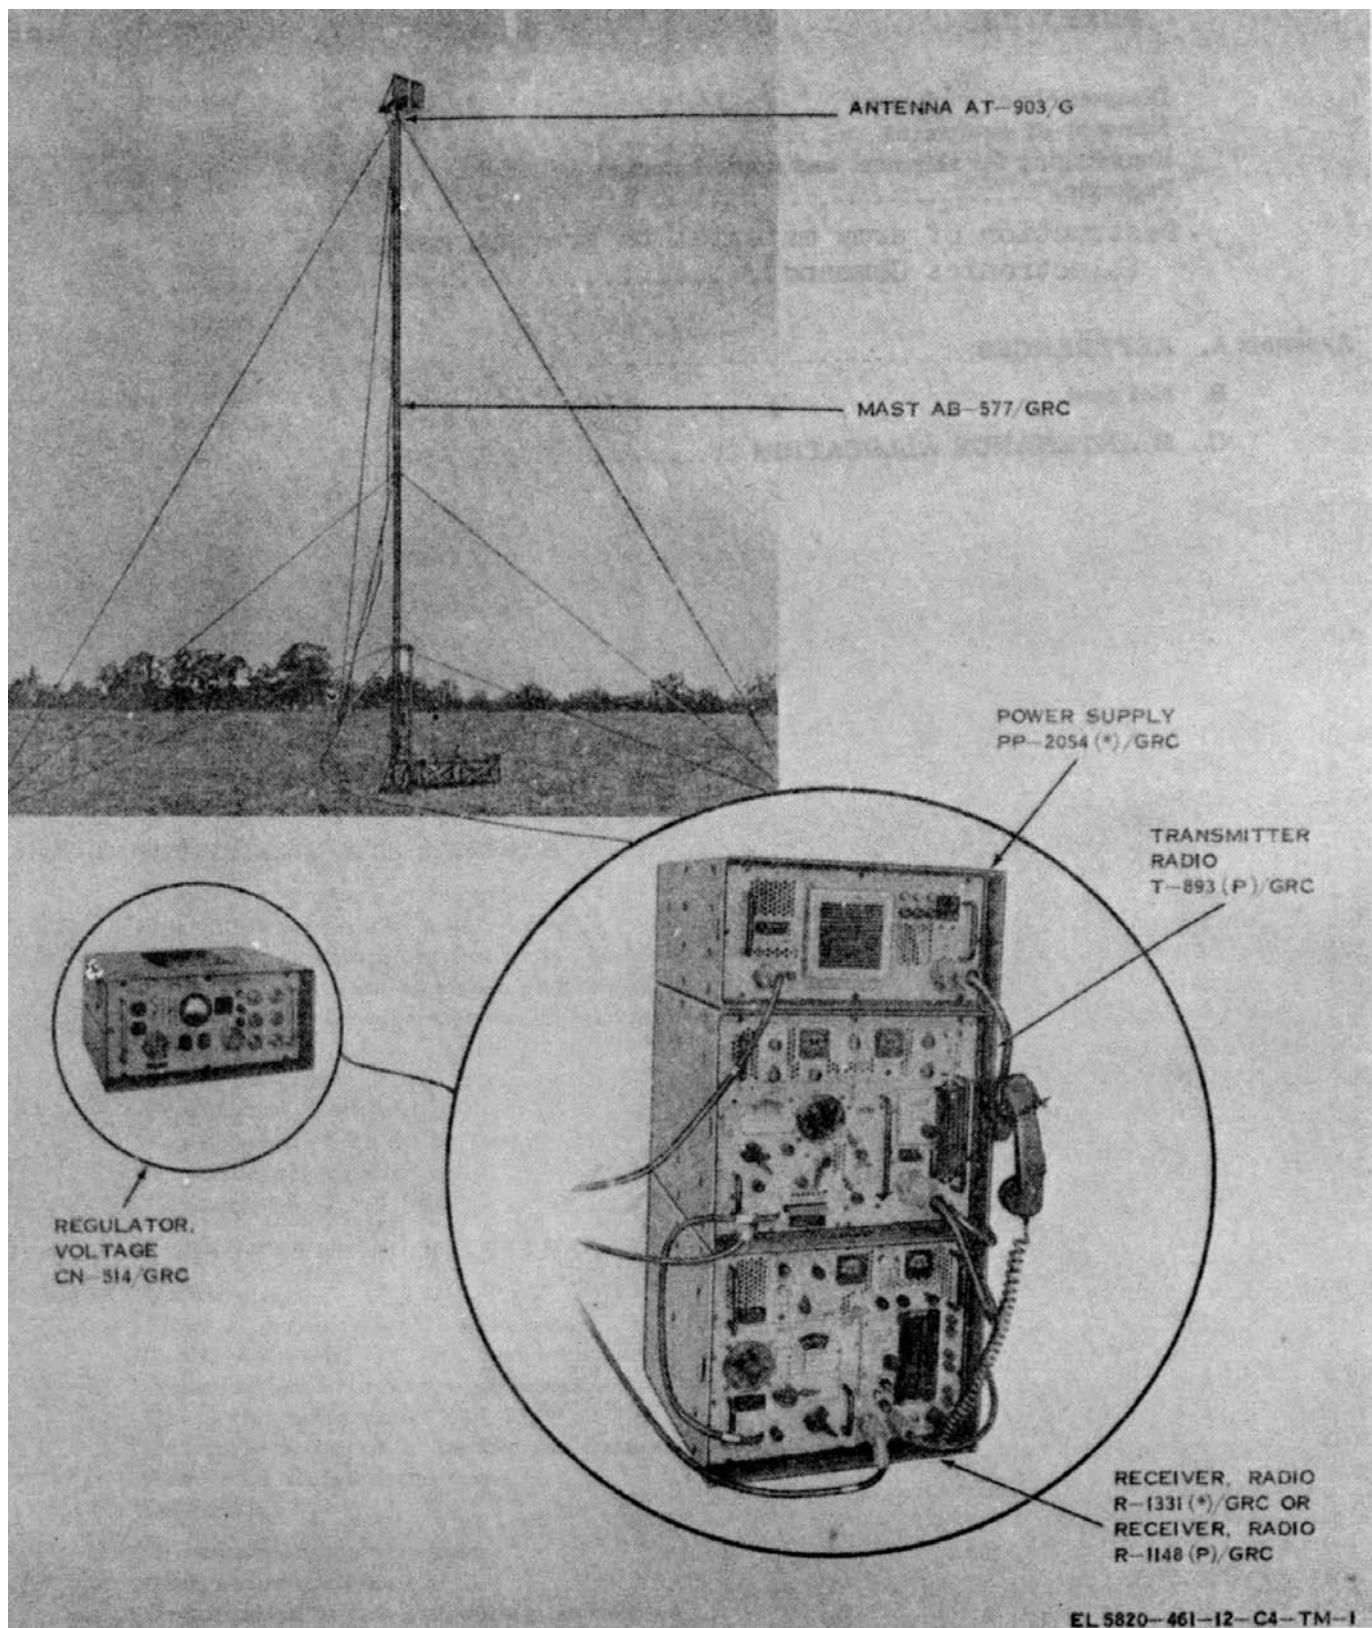

Figure 1-1. Radio Set AN/GRC-50()(v) IN operation.
- a. This manual describes Radio Sets AN/GRC-50(V) 1, 2, 3, 4, and 5 and AN/GRC-50A(V) 1, 2, 3, 4, 5, 6, 7, 8, 9, 10, and 11. It covers their installation, operation, and operator's and organizational maintenance. The components of the radio sets are listed in paragraph 1-6.
- b. and maintenance of Mast AB-577/GRC (figs. 1-1 and 1-8) are provided in TM 11-5820-538-12 which also includes information on the use of Extension Kit MK-806/GRC which is used to extend the height of the antenna to another 25 feet above the 50-foot height of the AB-577/GRC.
- (1) Radio Set AN/GRC-50()(V) applies to all configurations of the radio set: AN/GRC-50(V) 1, 2, 3, 4, and 5 and AN/GRC-50A(V) 1, 2, 3, 4, 5, 6, 7, 8, 9, 10, and 11.
- (2) Amplifier-Converter AM-1955()/GRC applies to Amplifier-Converters AM-1955/GRC, AM-1955A/GRC, and AM-1955B/GRC (pare 1-14d).
- (3) Amplifier-Converter AM-1956()/GRC applies to Amplifier-Converters AM-1956/GRC, AM-1956A/GRC, and AM-1956B/GRC (pare 1-14d).
- (4) Amplifier-Oscillator AM-1958()/GRC applies to Amplifier-Oscillators AM-1958/GRC and AM-1958A/GRC (pare 1-14e).
- f. All references in this manual to Receiver, Radio R-1331 (*)/GRC also apply to Receiver, Radio R-1331 (P)/GRC, Receivers, Radio R-1331A(P)/GRC, and R-1331B(P)/GRC unless otherwise specified (pare 1-14b and c).